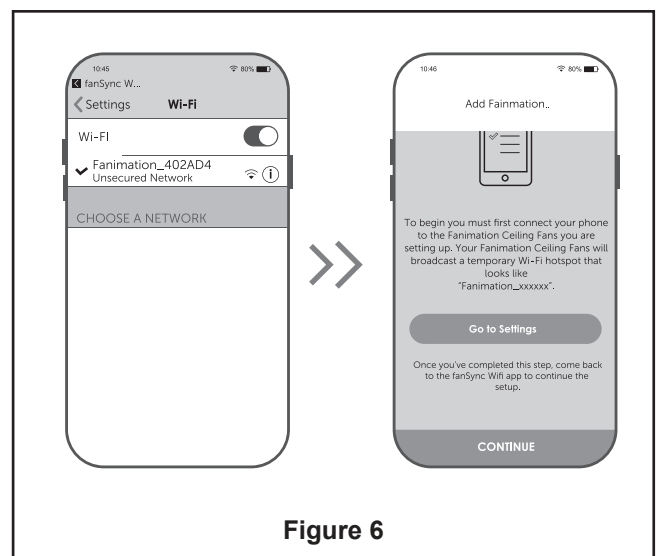

Figure 6
- ☐ 6. Replace battery cover on the remote control and secure with the previously removed screw. (Figure 6)
- ☐ 6. In the WiFi settings on your smart device, select the Fanimation_XXXXXX device and return to the fanSync WiFi app and press "CONTINUE". (Figure 6)